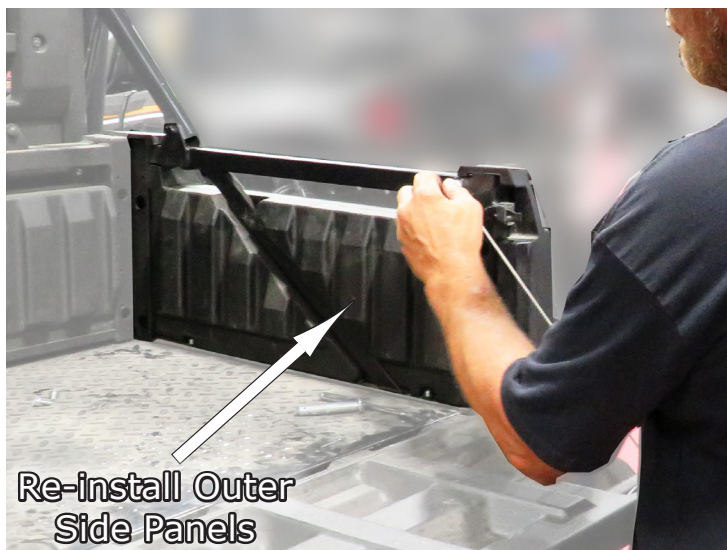

Fig.23a
23.Now you can re-install the **Outer Side Panels** back onto the machine, both sides, using the **Factory Hardware** you removed previously. See **Fig.23a-b**.